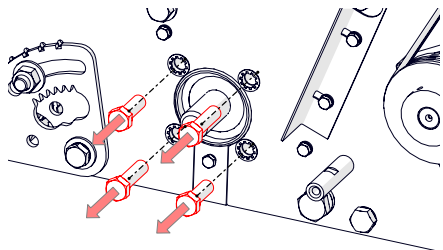

Fig. 15H - Remove cylinder securing bolts from LH side.
9. Remove the 4 x M12 hex bolts (Fig. 15H) securing the cylinder on the left-hand side.